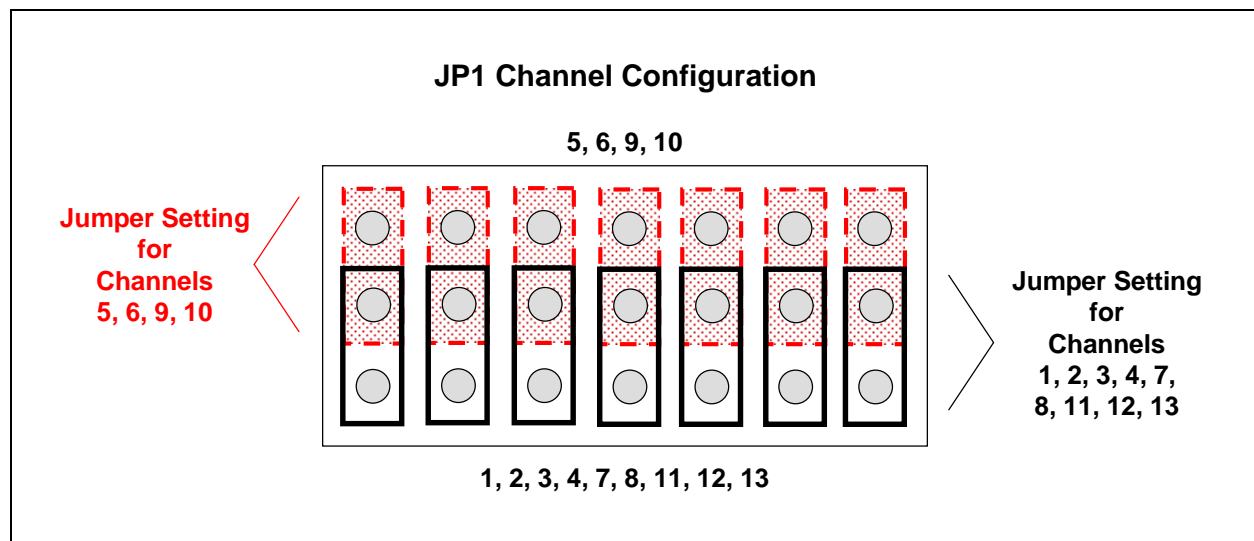

Figure 1. ASC Card Jumper Block (JP1)
6. Refer to figure 1. On both the operational and spare ASC, set the backup channel configuration by positioning the seven jumpers on JP1. Using all seven jumpers, move the jumpers to the side of the block that lists the number of output channels for your site configuration (the center row of pins is common). For example, if your site has 5, 6, 9, or 10 channels, connect each jumper from the center pin to the top pin; if your site has 1, 2, 3, 4, 7, 8, 11, 12, or 13 channels, connect each jumper from the center pin to the bottom pin.